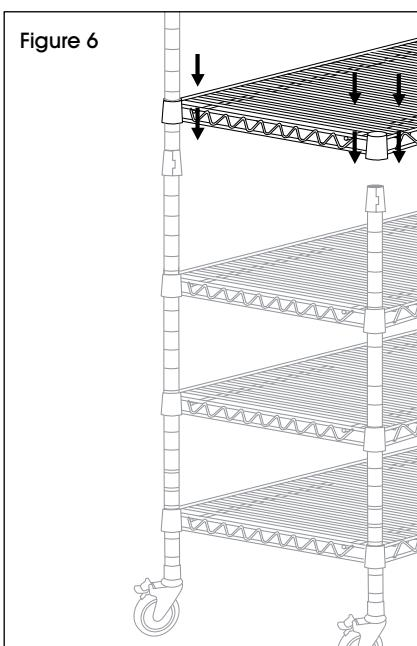

Figure 6
- Determine height of the next shelf, snap on shelf supports, then add and secure shelf. Repeat for remaining shelves. (See Figure 6)